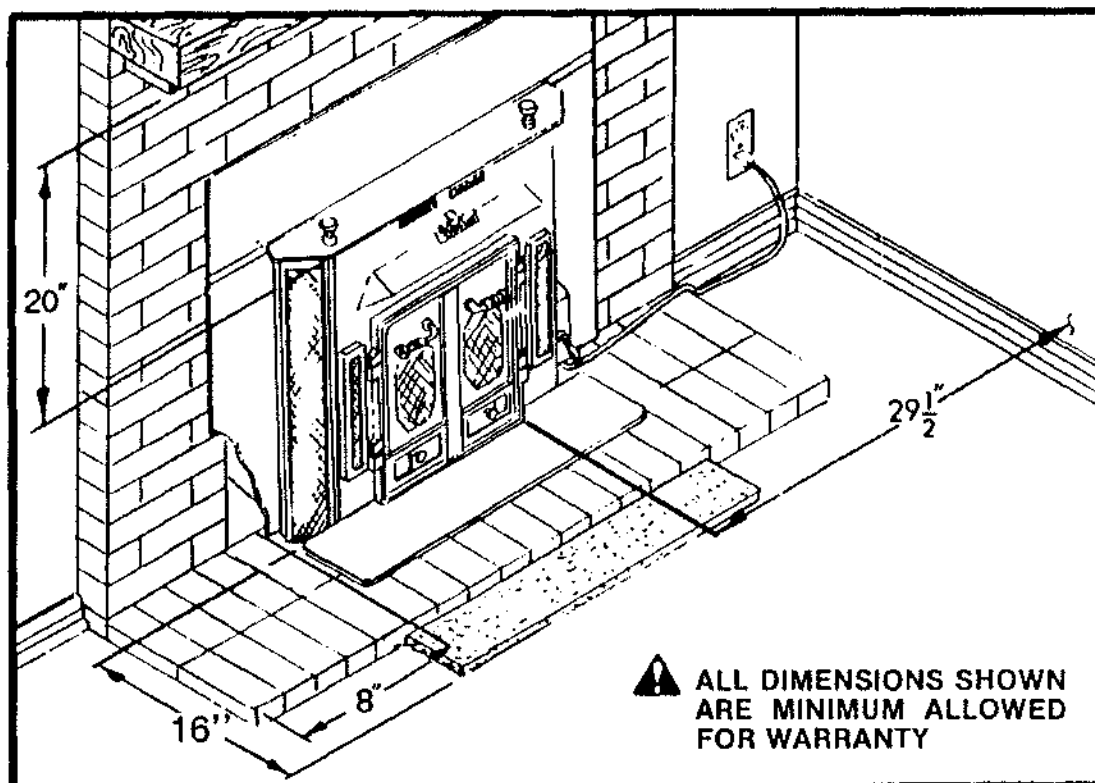

FIGURE 1
3. There must be a minimum of 8" between the side of the masonry fireplace opening and any combustible materials, or 16" between the **BUCK STOVE** firebox opening and any combustible materials. If there is not 16" from the front of the **BUCK STOVE** firebox opening and the front of the masonry hearth, a floor protector must be used in front of the hearth to protect combustible materials. The floor protector is to be of non-combustible, inorganic material equal to 3/8" thick millboard having a thermal conductivity of $K=0.84 \text{ BTU/F}^2\text{H}^\circ\text{F inches}$ and must measure 38" wide. The minimum clearances for the fireplace model are shown in Figure 1.